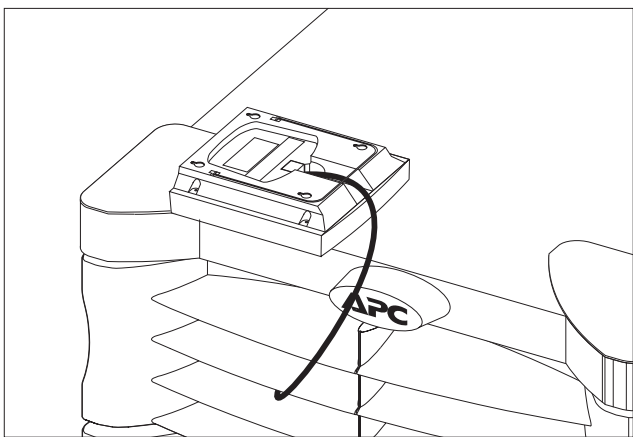

Fig 5-11 Attaching the Cable to the PowerView
3. Connect the RJ45 plug into the receptacle on the back of the PowerView as shown in figure 5-11.